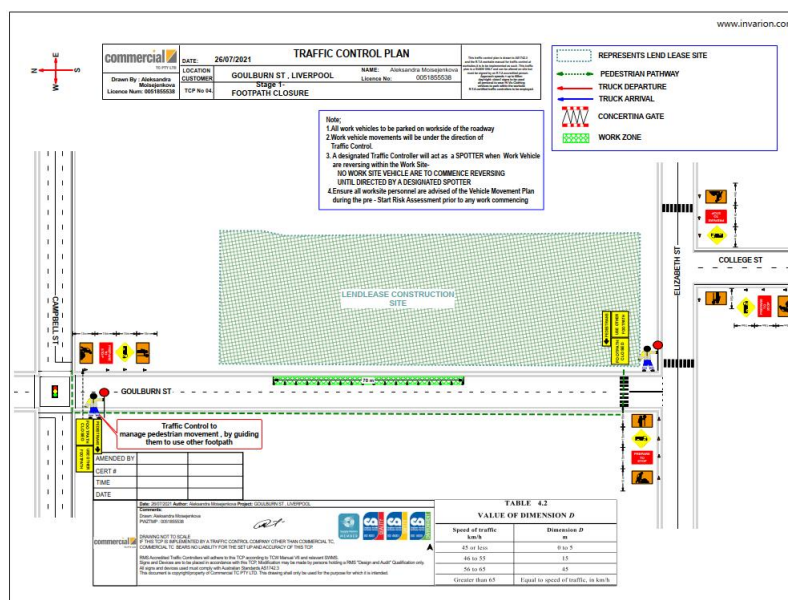

Figure 9 – Stage 1 Pedestrian management during footpath closure
- Pedestrian access and paths of travel: Throughout all activities, pedestrian access, including paths of travel for disabled pedestrian access within the existing hospital campus, will be maintained with details of alternate routes and distances of paths of travel. The public way (outside of any approved construction works zone) must not be obstructed by any materials, vehicles, refuse, skips or the like, under any circumstances, in accordance with Condition 16. Figure 9 & 10 below represent examples of pedestrian footpath routes proposed during closure events throughout Stage 1 & 2 and are further detailed within the CTPMP.
- Loading Zones: A Loading Zone will be established for Stage 1& Stage 2 on Goulburn St with the approval from Liverpool Council & road occupancy licence by TfNSW, to take up kerbside space to enable trucks to pull up adjacent the Class B hoarding for lifting of materials into the construction site. The loading zone location on each Stage is included within the below figure 9 & 10.